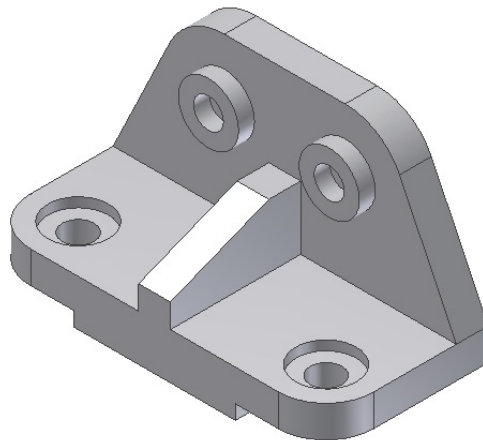

Figure 6-114 Final model for Tutorial 1
- Finally, draw an open sketch and convert it into a rib using the **Rib** tool to complete the model, refer to Figure 6-114.
5. Set the value in the edit box in the **Thickness** area to **30**. Choose to exit the **Rib** dialog box. The final model after creating all features is shown in Figure 6-114.